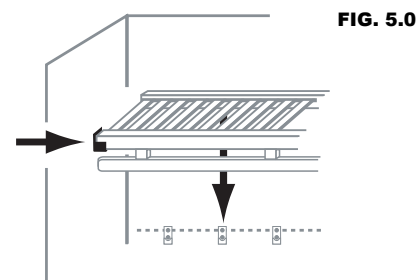

FIG. 5.0
- Repeat process for all (A) Shelf locations.
- Place Top (A) shelf onto L-Hooks and position Shelf End Bracket onto front shelf end at closet side wall location (Fig. 5.0).